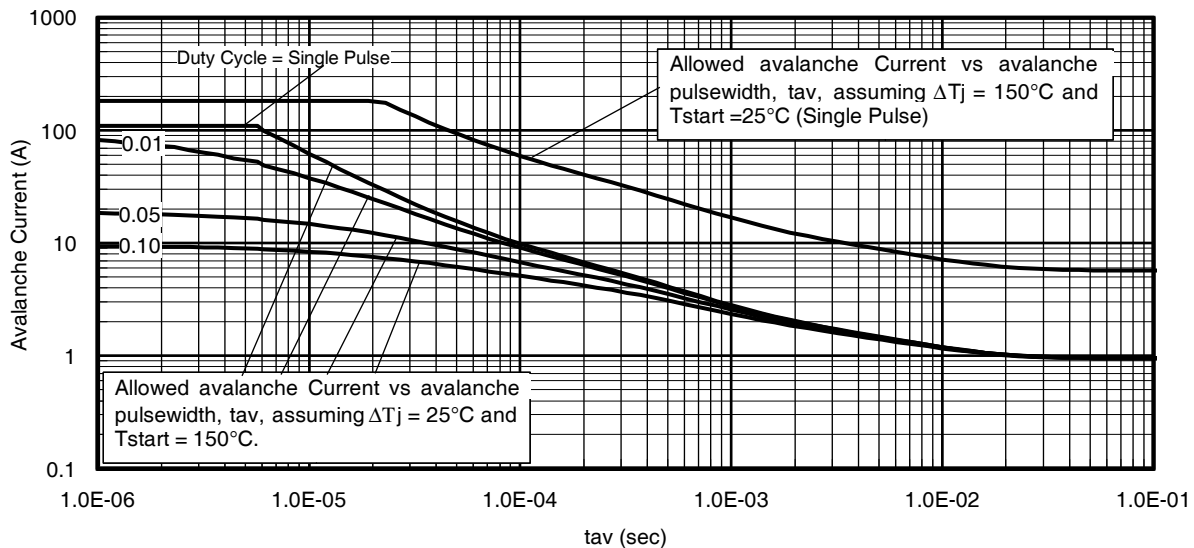

Fig 14. Typical Avalanche Current vs. Pulsewidth
Notes on Repetitive Avalanche Curves , Figures 14, 15:
7. ΔT = Allowable rise in junction temperature, not to exceed T_{jmax} (assumed as 25°C in Figure 14, 15).